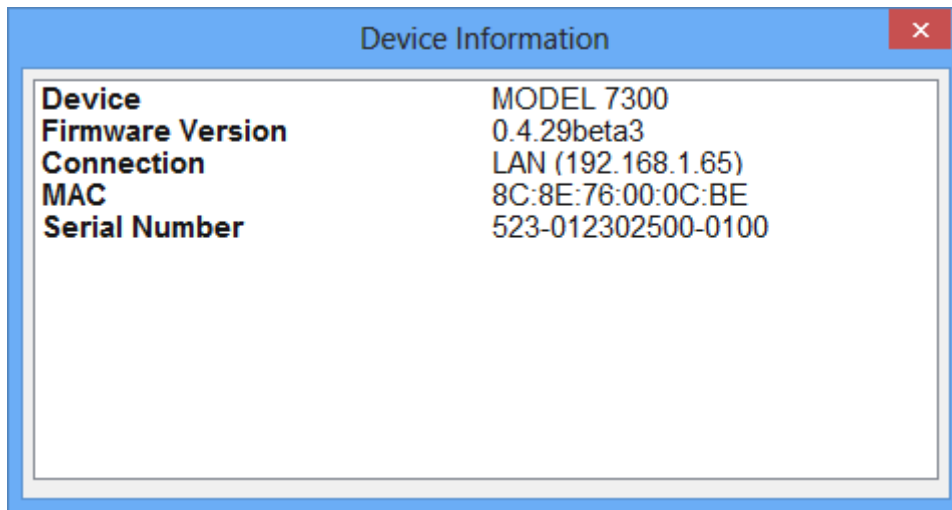

Figure 3 Device selection dialog
After start, the software will automatically detect existing SERIES 7000 instruments (LAN and USB) and will establish connection to the previously connected device, if still available. Otherwise a window will appear with all detected SERIES 7000 devices listed. Connection to a device can be established by selecting the device identifier in the list and then clicking on the "select" button (see Figure 3).
**Device → Connect** automatically detects available SERIES 7000 devices through LAN or USB. If a connection is already established, it disconnects and opens the dialog as shown in Figure 3.